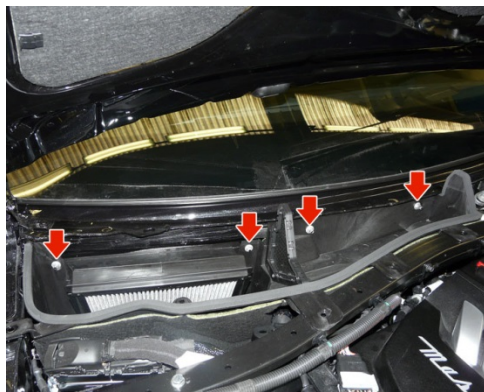

Fig.5
- e. Remove the nuts holding the water containment tray. (Fig.5)